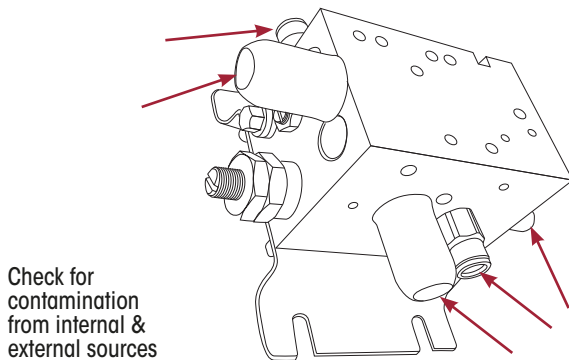

Figure 35: Check for Signs of Contamination
4. Release pressure again and remove hoses from LACV and inspect for signs of moisture, dirt, dust or sludge. Damage caused by internal contamination is irreparable. The cause of the contamination will need to be identified and rectified, and the LACV will need to be replaced. Refer Figure 35.